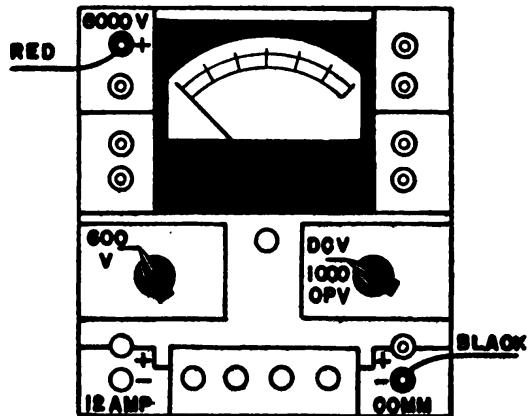
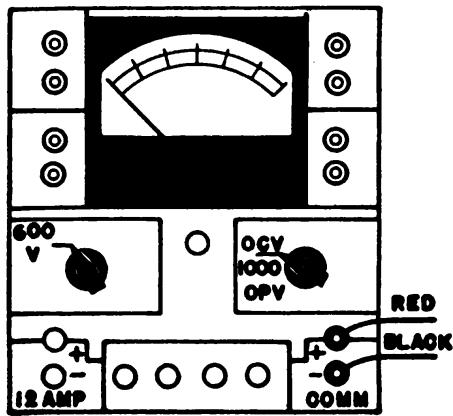

FIG. 5D: 0-1200 V, 0-6000V,
FIG. 6A: 0-3V, 0-12V, 0-60V,
a. When using 0-1,200 volt and 0-6,000 volt d-c ranges at 1,000 ohms-per-volt, see figure 5D and table I for switch positions, meter scales, and jack connections, and proceed as follows:
- (1) Observe the cautions for voltage measurements, particularly the high-voltage precautions.
- (2) Set the circuit selector switch to D.C.V. 1,000 O.P.V. position.
- (3) Set the range selector switch to 600 V. position.
- (4) Insert the black test lead into the —COMMON tip jack and the red test lead into either the +1,200 V. or +6,000 V. tip jack, depending upon the range desired.
- (5) For the 0-1,200 volt range, multiply reading on the black 0-12 d-c scale scale by 100.
- (6) For the 6,000 volt range, multiply the reading on the black 0-60 d-c scale by 100.
b. When using 0-3, 0-12, 0-60, 0-300, or 0-600 volt ranges at 1,000 ohms-per-volt, see figure 6A and table I for switch positions, meter scales, and jack connections, and proceed as follows:
- (1) Observe the cautions given for voltage measurements.
- (3) Set the range selector switch as follows: